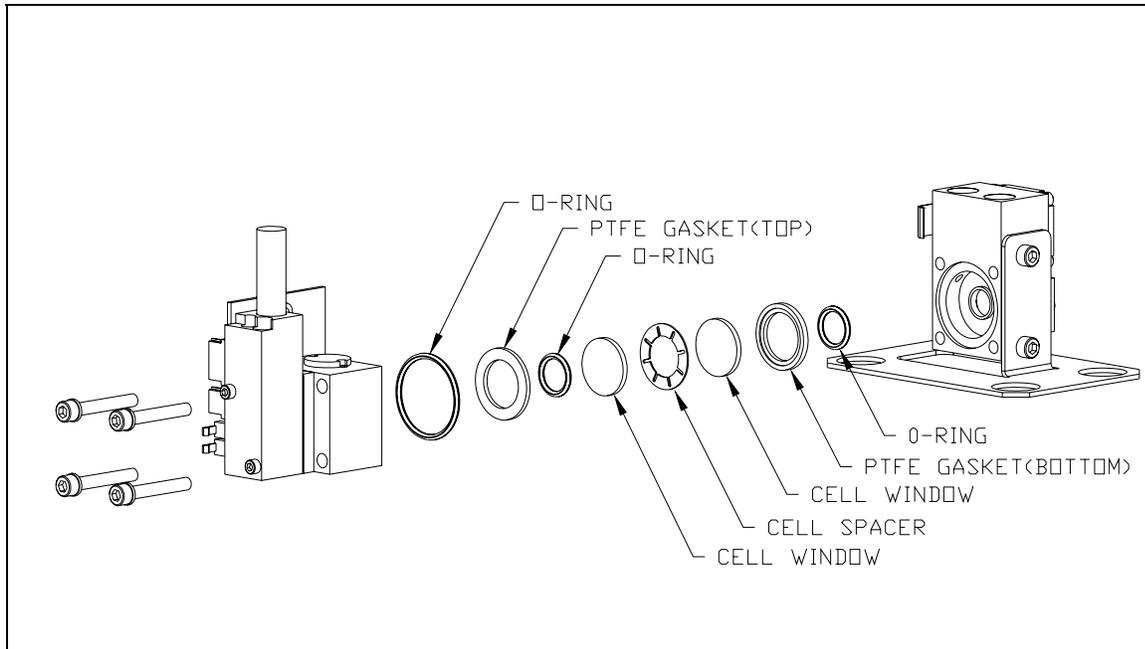

FIGURE 4.1 MEASUREMENT CELL DISASSEMBLY
Figure 4.1 below shows the disassembly of the measurement cell for cleaning. The cell can be easily disassembled after removing the (4) #8-32 screws from the rear of the sensor assembly. The two sapphire Cell Windows and the Stainless Steel Cell Spacer can be cleaned with isopropyl alcohol and rinsed with distilled water. Before reassembly, inspect all three O-Rings to ensure that they are in good condition and replace if necessary. After reassembly, the sensor should be leak checked.